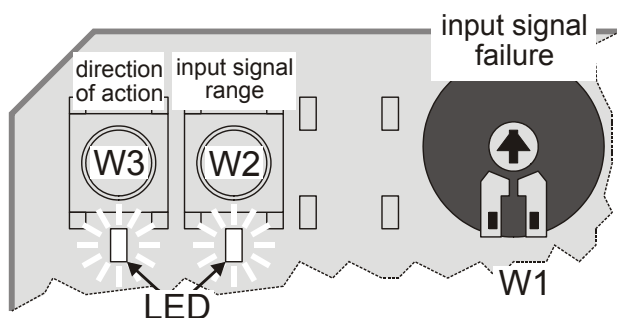

Fig. 1. Pushbuttons and potentiometer (default positions)
\* Factory setting; can be reversed by pressing the right-hand pushbutton (W3) located on the PCB (see Fig. 1).
The direction of action can be reversed by pressing the left-hand pushbutton (W3) located on the printed circuit board (see Fig. 1). If the corresponding LED is lit, this indicates that the actuator stem will retract at a control signal of 0(2) Vdc (factory setting); if it is dark, the actuator stem will extend at a control signal of 0(2) Vdc.
The range of the analog input signal Y can be changed by pressing the right-hand pushbutton (W2) located on the printed circuit board (see Fig. 1). If the corresponding LED is lit, this indicates that the actuator is set for 0...10 V operation (factory setting); if it is dark, the actuator is set for 2...10 V operation.
Using the potentiometer (W1) located on the printed circuit board (see Fig. 1), the actuator can be adjusted such that in case the signal input fails (due e.g. to a broken wire) or exceeds 12.5 V, the actuator will run to any pre-configured position between 0% and 100%. The factory setting is with the actuator stem in the central position (50%).